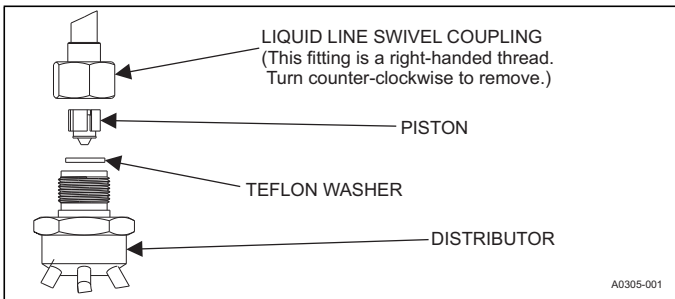

FIGURE 6: Piston Installation
7. Verify that the Teflon washer is still in place in the distributor opening. See Figure 6.